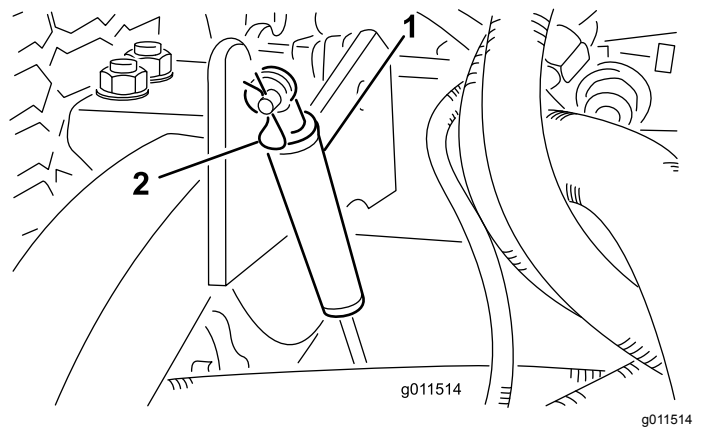

Figure 103
2. Remove the hairpin cotter securing dampers to lift arms (Figure 103). Pivot damper toward deck housing.